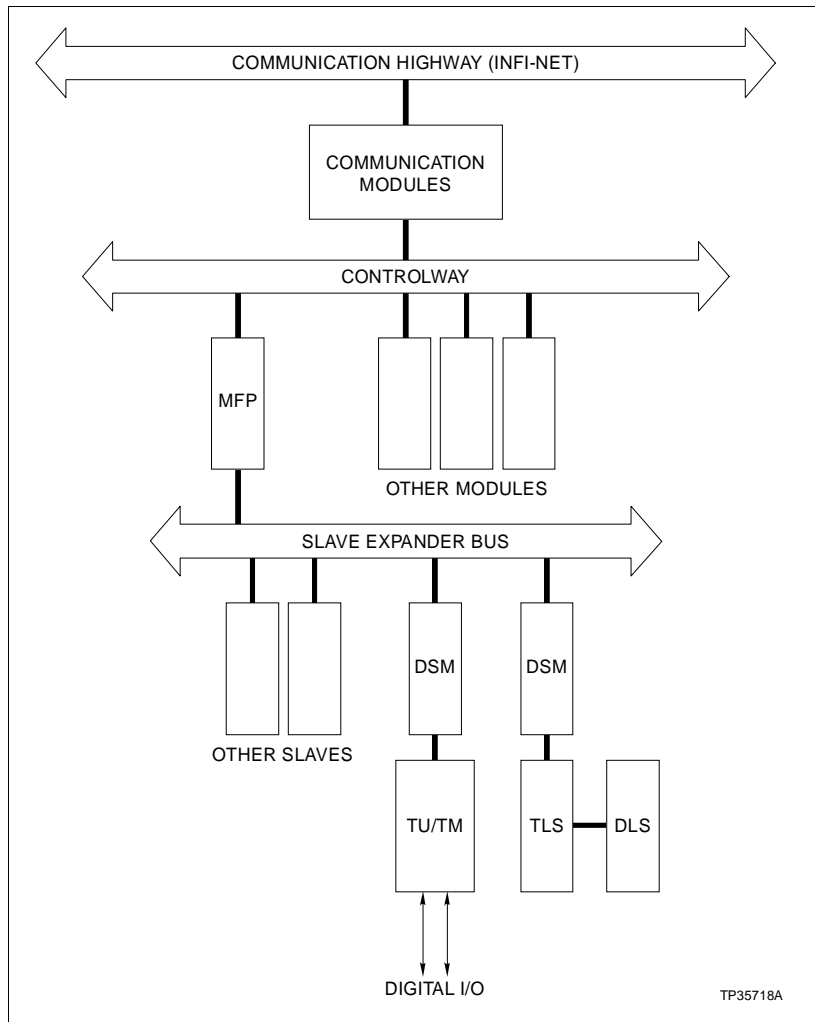
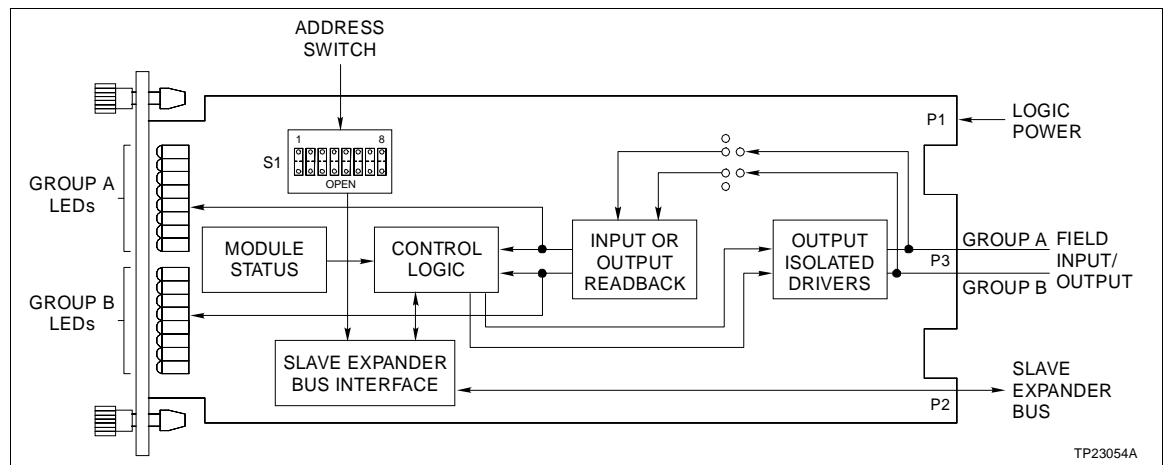

Figure 1-1. Infi 90 Communication Levels
Figure 2-1. DSM Block Diagram
This manual explains the purpose, operation and maintenance of the Digital Slave Module (DSM). It addresses handling precautions and installation procedures. Figure 1-1 illustrates the Infi 90 communication levels and the position of the DSM within these levels.
This section explains the input and output circuitry, control logic, power and connections for the Digital Slave Module (DSM). The DSM is a digital input/output interface to a Multi-Function Processor (MFP) module or Logic Master Module (LMM). The MFP/LMM support up to 20 DSMs. These modules provide the control functions. The master module communicates with its slave module on a 12-line slave expander bus as shown in Figure 1-1. Each slave on the slave expander bus has a unique address set by the slave address dipswitch (S1) (see Figure 2-1).
Figure 2-1 shows the DSM block diagram and signal flow through the module. The input isolation block consists of current limiters and optocouplers to isolate the sixteen field inputs (or outputs) from the module circuitry. The input circuits provide 150 VDC isolation between input and logic circuits, and other input channels.
The contact input signals connect to the 30-pin card edge connector P3 (shown in Figure 2-1), using a termination cable from a termination unit or module.
Function Code (FC) 84 in the master module configuration accesses the DSM on the slave expander bus. It also allows the master module to automatically read point (input) data or status data from the DSM. This data is output by the buffer circuits (control logic) to the slave expander bus interface (see Figure 2-1). The slave address in FC 84 must be the same as the address set on the slave address dipswitch (S1).
Logic power (+5 VDC) drives the DSM circuits. It connects through the top 12-pin card edge connector (P1) shown in Figure 2-1.